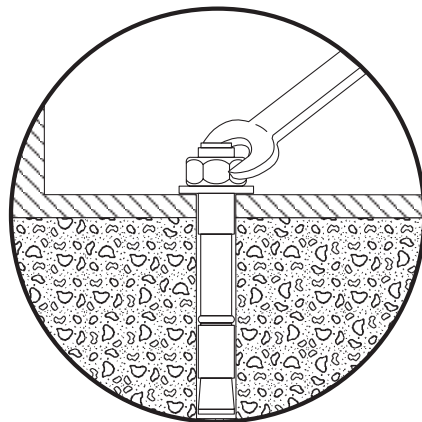

Figure 4
9. Tighten floor anchors with wrench to 65 ft. lbs. torque. (Part No. 12100, Hilti No. 45367). See Figure 4.